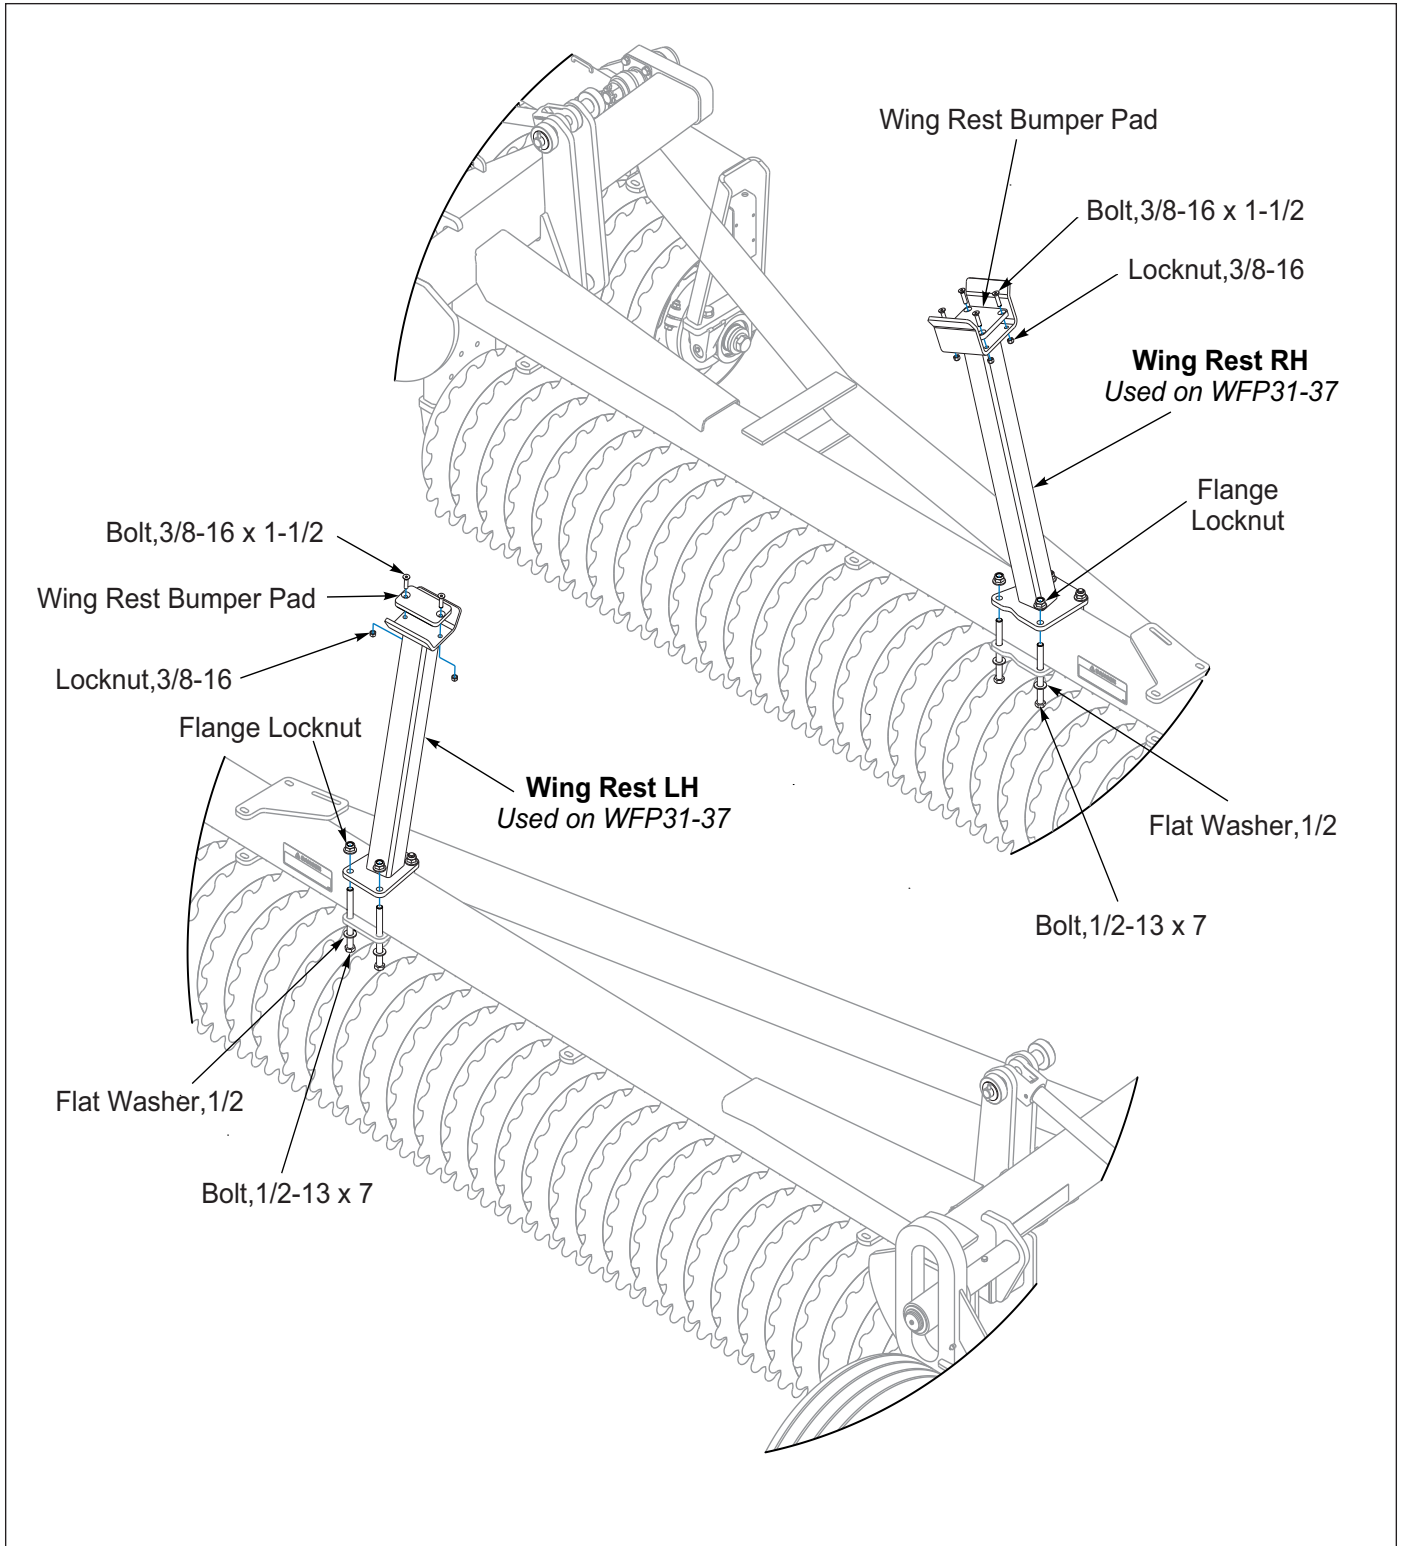

Figure 2-21: Wing Rest Installation, WFP 31-37
1. Install the RH and LH Wing Rest to the RH and LH Wing Frame 4-Hole Plate located under the Wing Frame Tube. Secure with 5/8-11 x 7 Bolts, Flat Washers and Flange Locknuts. **See Figure 2-21.**